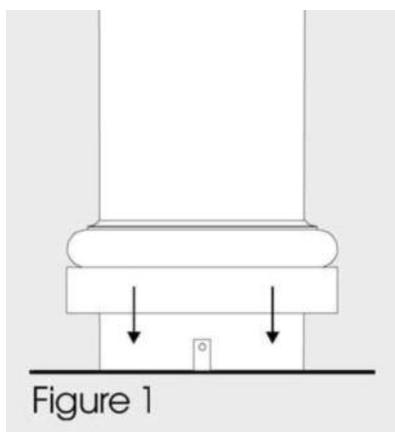

Figure 1
3. Slip one-piece cap and base onto column shaft (see figure 1). The two-piece cap and base are attached after then shaft is installed. If this column is installed where it could collect water or debris, the top of the column and cap **MUST** be flashed (covered) to prevent such collection. Use lead, copper, aluminum, galvanized, etc. flashing cut slightly larger than the cap, and fold the edges down over the cap after step 5. It is not permissible at any time to fill the interior of the column shaft with sand, concrete or any other material.